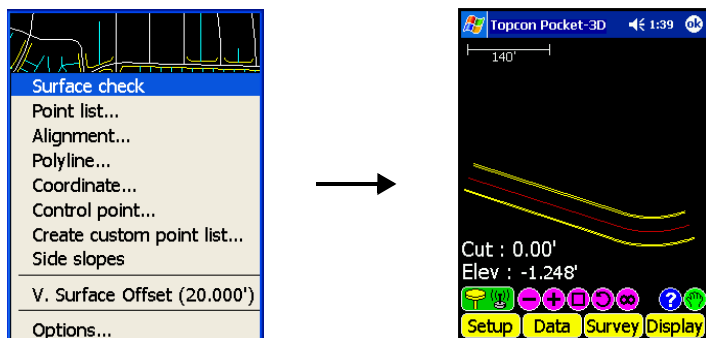

Figure 7-4. Surface Check
1. To perform a surface check, press **Survey ▶ Stake-out ▶ Surface check** (Figure 7-4).
The main screen displays the cut/fill information and current elevations (Figure 7-4).